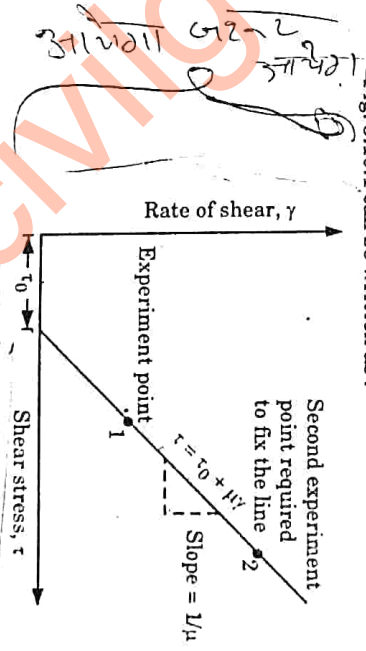

Fig. 3.10.1. Bingham model.
6. The minimum stress is called yield stress and designated by the symbol  $\tau_0$ . Thus the simplest flow equation of concrete illustrated in Fig. 3.10.1 can be written as: